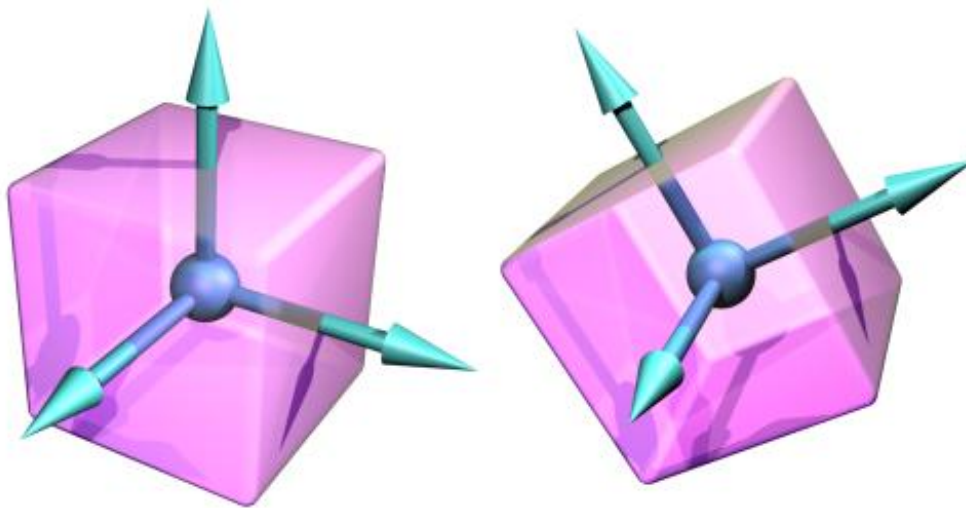

Figure 1: The body coordinate frame.
- Inertia matrix. This is a 3×3 matrix that describes how the body's mass is distributed around the center of mass. Conceptually each body has an x-y-z coordinate frame embedded in it, that moves and rotates with the body, as shown in figure 1.